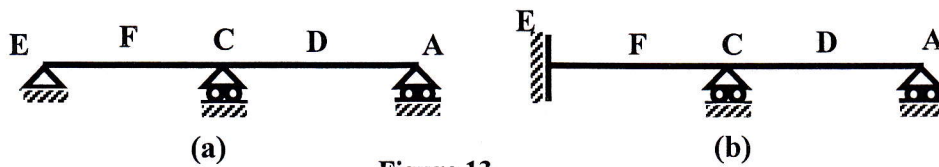

Figure 13
(i) What is Influence Line (IL)? Draw the qualitative IL for  $M_A$ ,  $V_D$  and  $R_C$  for the beams shown in Figure 13 (a-b).